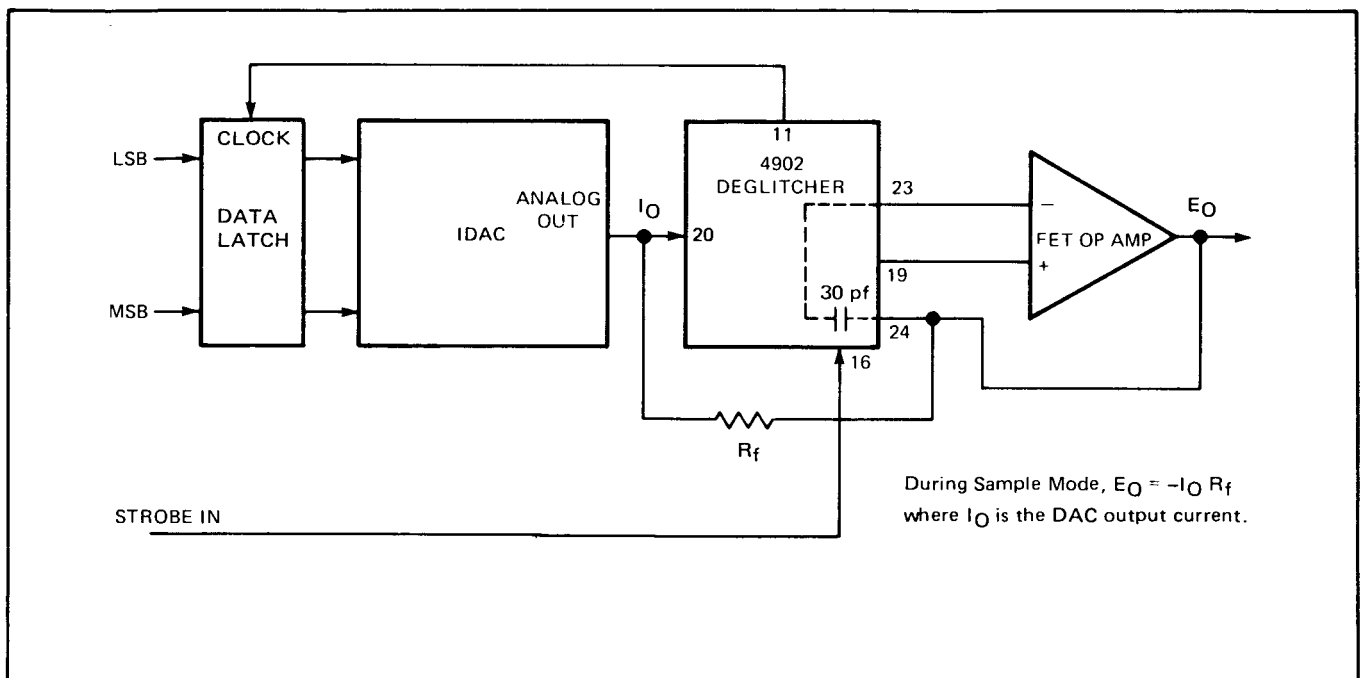
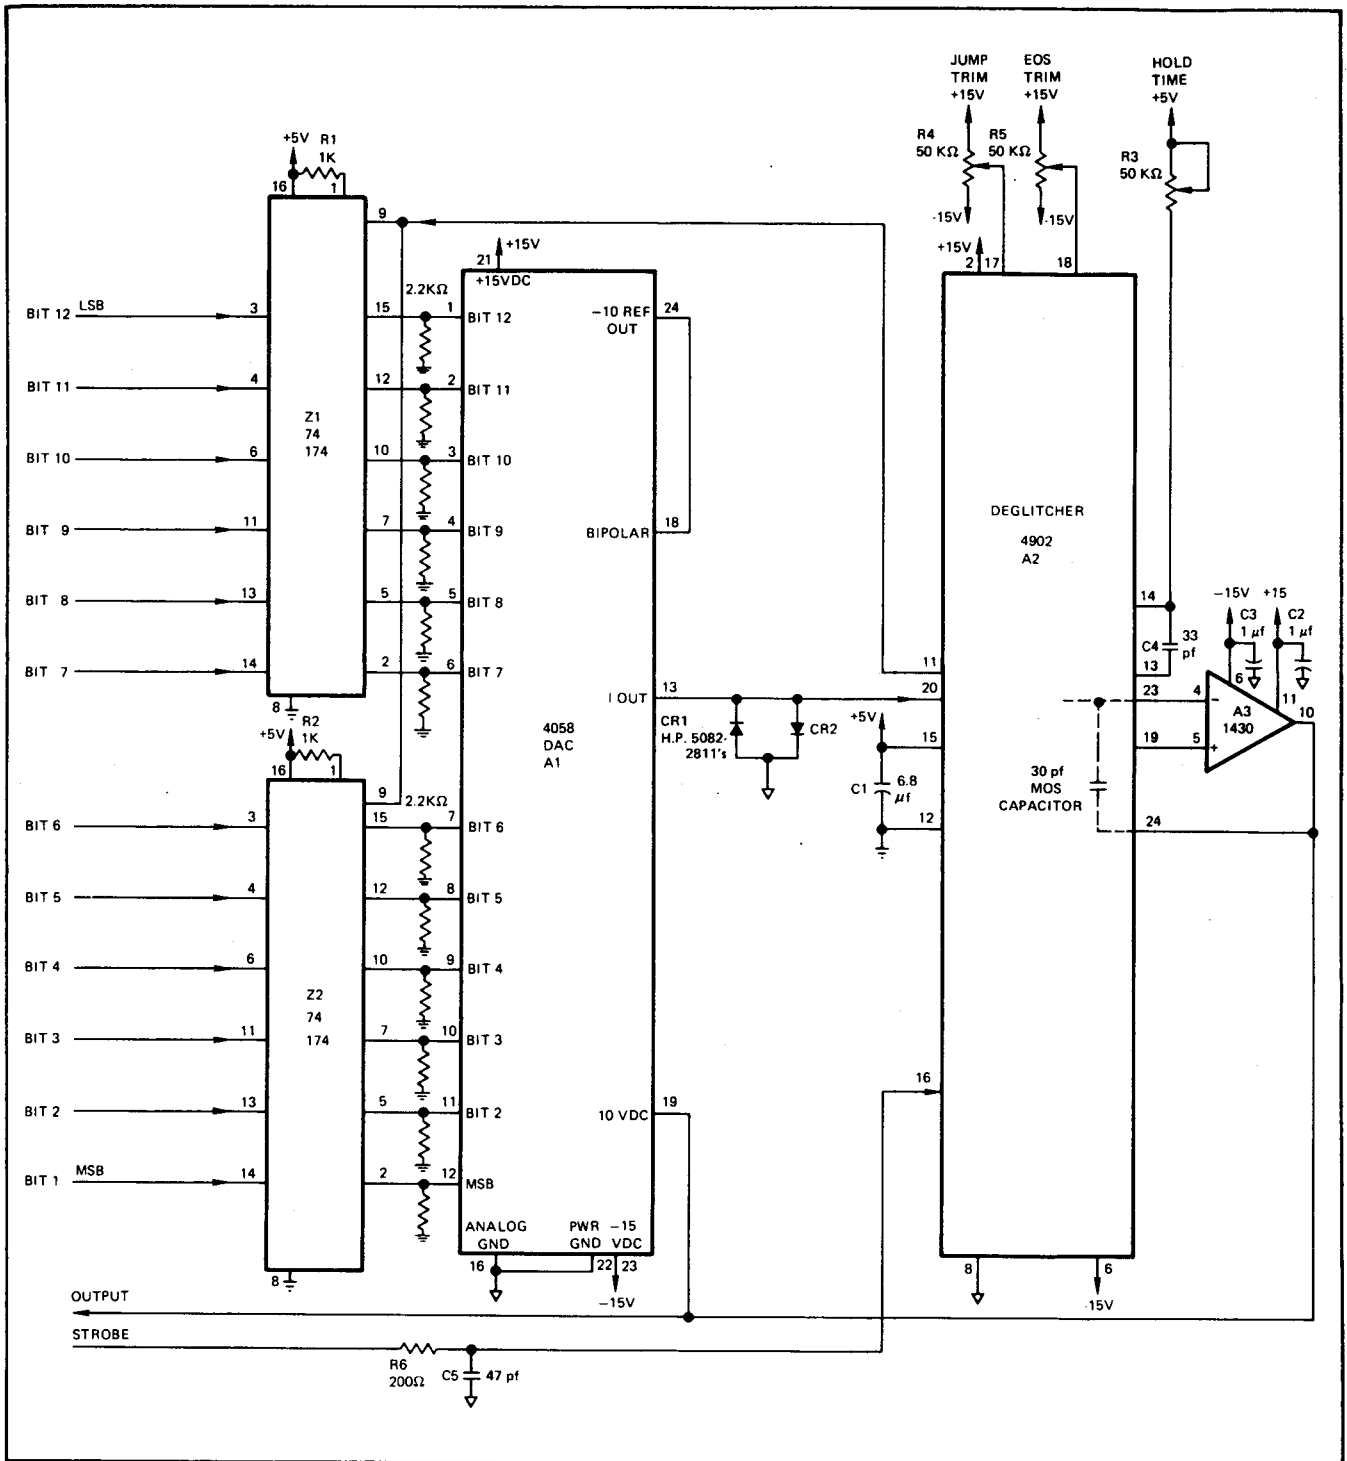

Figure 6. Simplified Block Diagram of Deglitched DAC System
Figure 7. High Reliability Deglitched DAC System
The 4902 can be used with just about any commercially available current DAC or FET input operational amplifier. However, it should be noted that the 4902 glitch characteristics are trimmed for use with a Teledyne Philbrick 1430 operational amplifier. Therefore, when operated with another amplifier, the glitch characteristics will change. Figure 6 shows a simplified block diagram of a deglitched DAC system.
Figure 7 shows a detailed schematic of a deglitched DAC system employing the 4902, the 4058 high-speed, high-reliability 12 bit DAC, and the 1430 high-speed, high-reliability FET operational amplifier. In this system, resistors internal to the 4058 are employed as the feedback resistor shown in Figure 6. While the schematic shown in Figure 7 is for a system with ± 5 volts output range other output ranges can be obtained with minor wiring changes as described in Table 1. A parts list is given in Table 2.
In Figure 7, the power supply bypass capacitors labeled C1, C2 and C3 are used to reduce power supply impedances at high frequency. Capacitor C4 is optional and is used for increasing the hold pulse width. C5 and R6 are used to prevent changes in the jump voltage over the range of TTL levels and rise times. CR1 and CR2 are back to back Schottky Barrier Diodes used to externally clamp DAC Input, pin 20.
- ① DAC Input, Pin 20, must be externally clamped with a pair of back to back Schottky Diodes connected between Pin 20 and Ground. (H.P. 5082-2811)
- ② Adjustable to zero.
- ③ The Hold Offset Voltage is the sum of the Sample Offset Voltage and the Hold Jump Voltage. All are adjustable to zero.
- ④ 5 MHz Bandwidth
- ⑤ 5 MHz Bandwidth at $\pm 1\text{ mV}$
- ⑥ $R_{LL} = 200\ \Omega$, $E_O = 10\text{ V}$
- ⑦ Using 1430 Output Op Amp
- ⑧ Use R.C. filter shown in Figure 7
- ⑨ At 10 V Full Scale